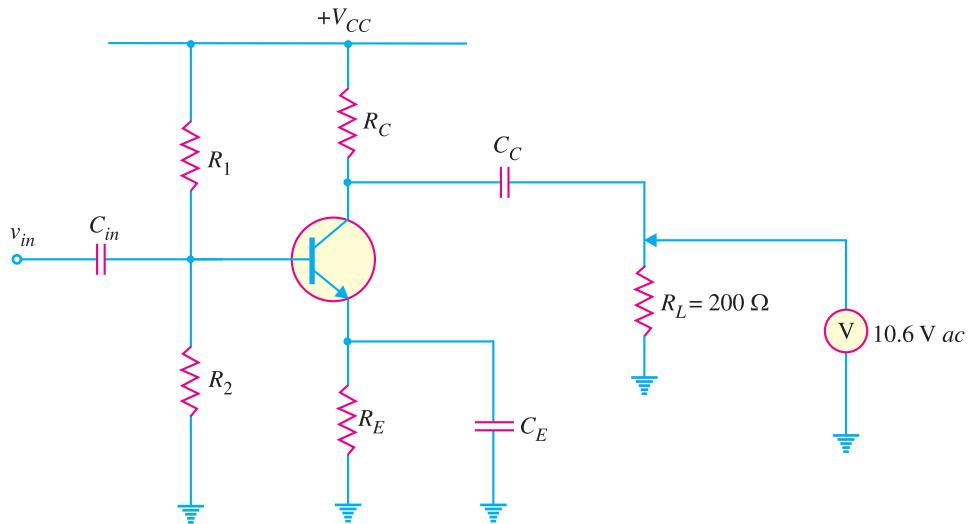

Fig. 12.3
**Example 12.2.** Determine the a.c. load power for the circuit shown in Fig. 12.3.